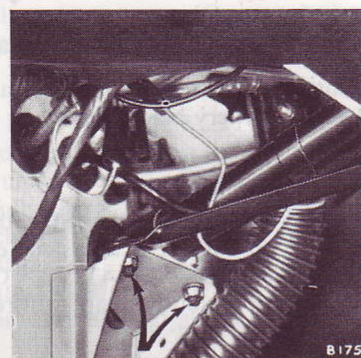

Fig. 54
2. Working inside the vehicle, slacken the clamp nuts shown arrowed on Fig. 54.
5. Using only finger pressure on the socket key, tighten the screw (2) and secure the locknut (1).